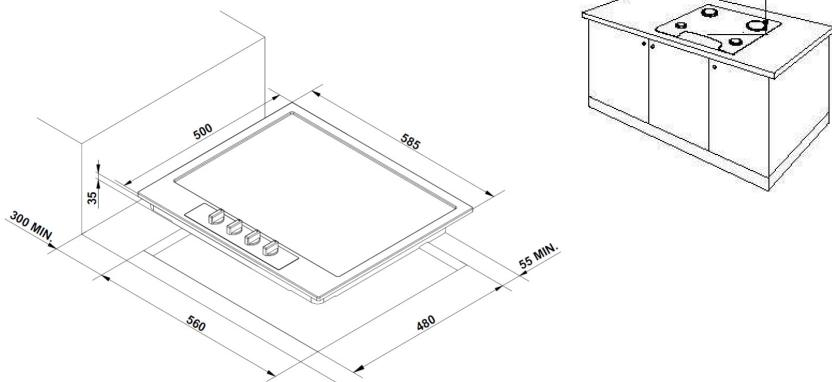

Figure 1.
The dimensions of the hole to be performed in the worktop and the minimum distances between rear and side walls and the sizes of the appliances are shown in the **figure 1** below.
- Position the special gasket supplied (C) along the outer perimeter of the worktop, following the scheme shown in **figure 1** above, so that the ends of the gasket meet exactly without overlapping.